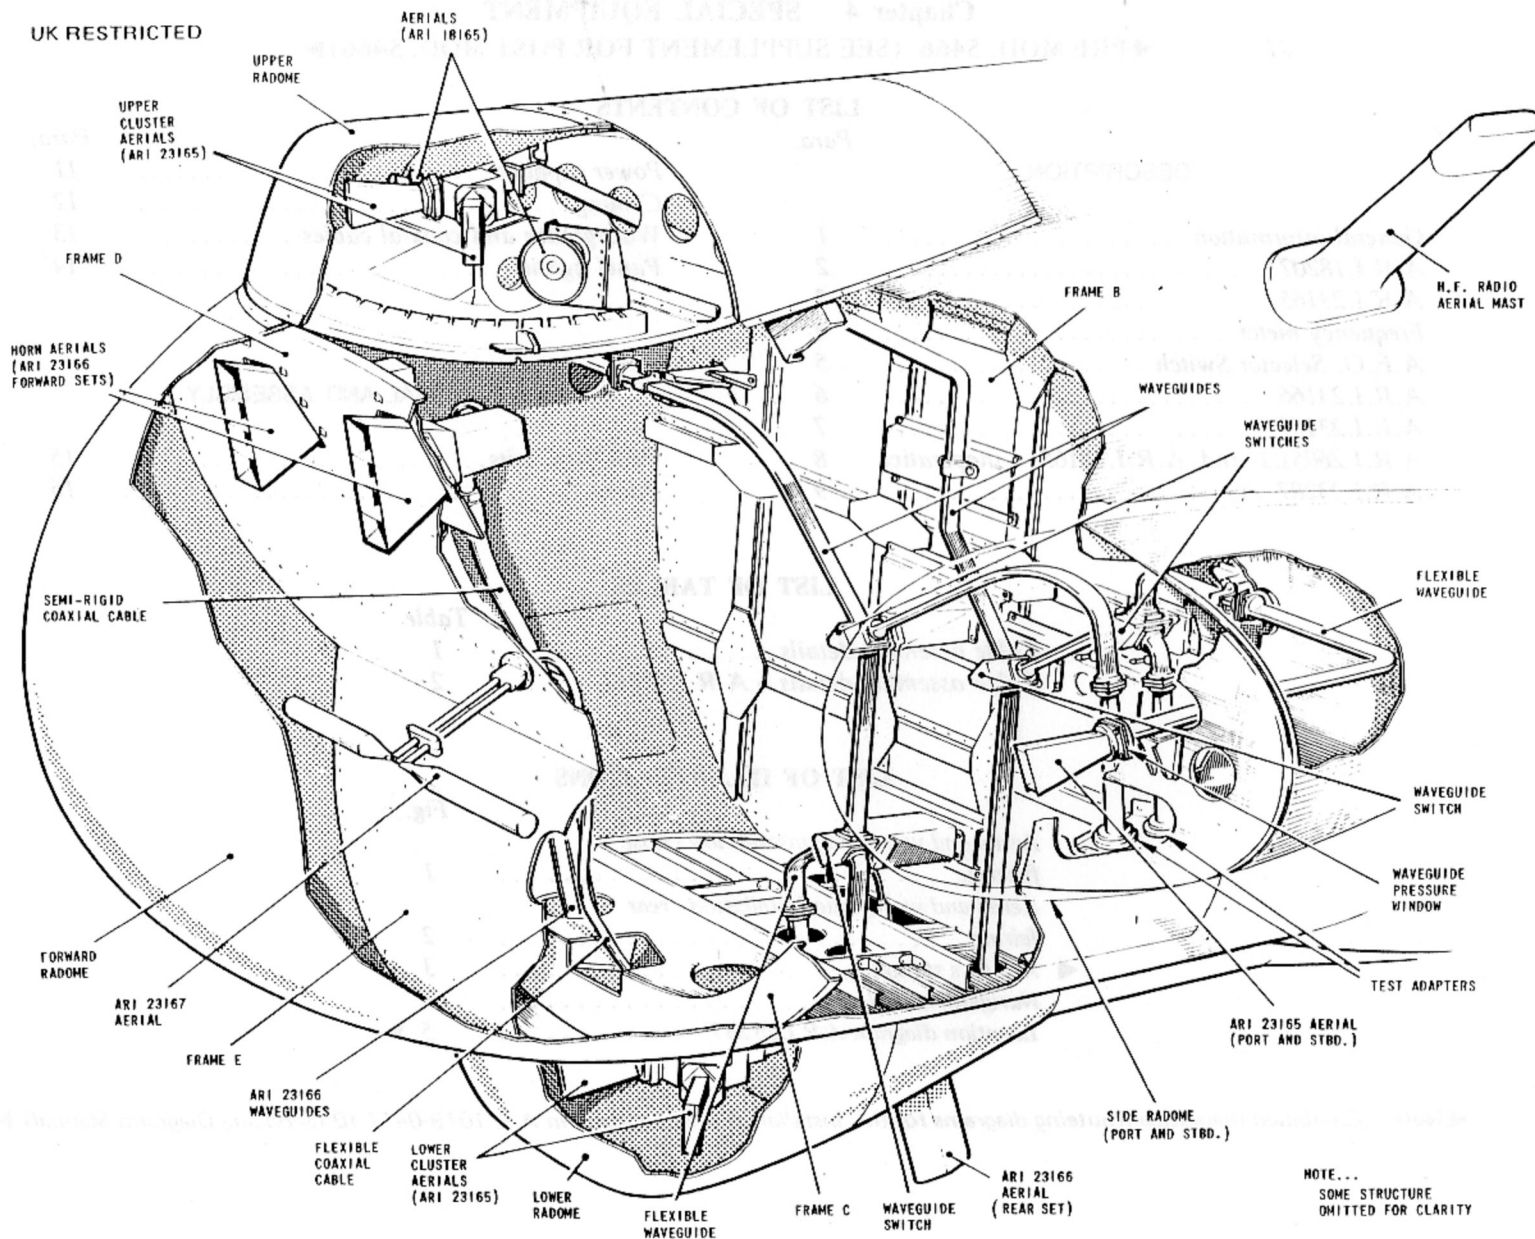
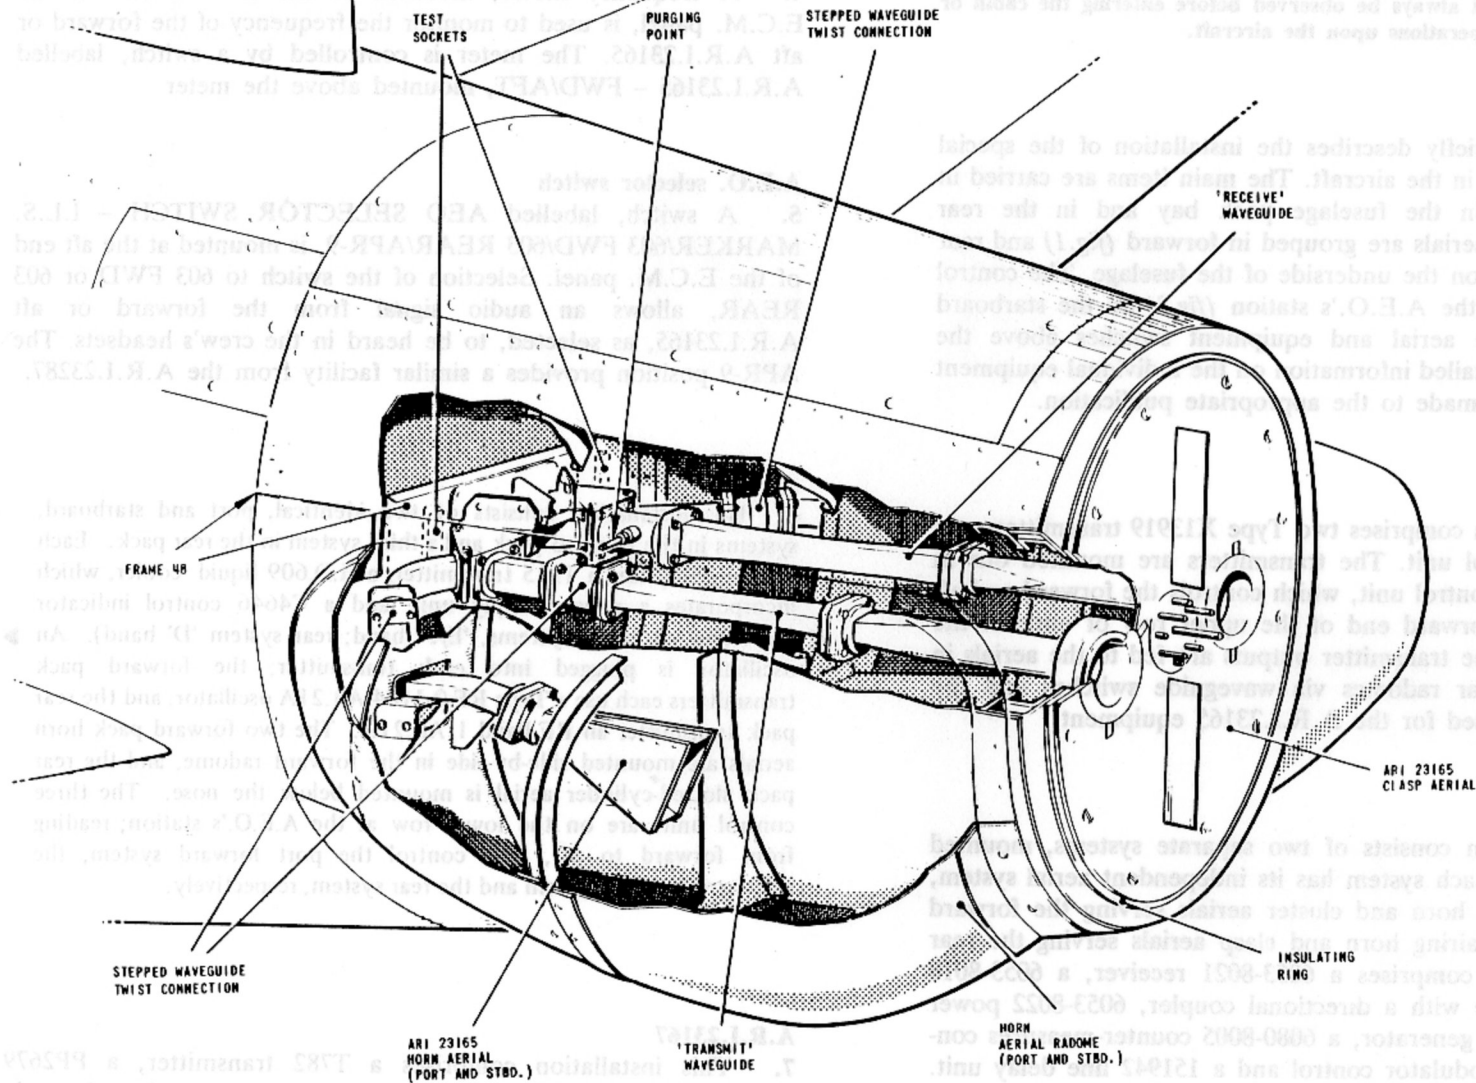

FIG. 1. AERIAL AND WAVEGUIDE INSTALLATION - NOSE FUSELAGE
FIG. 2. AERIAL AND WAVEGUIDE INSTALLATION - REAR FAIRING
1. This chapter briefly describes the installation of the special (E.C.M.) equipment in the aircraft. The main items are carried in two packs housed in the fuselage pack bay and in the rear equipment bay; the aerials are grouped in forward (*fig.1*) and rear (*fig.2*) radomes and on the underside of the fuselage. The control units are located at the A.E.O.'s station (*fig.3*) on the starboard cabin wall with the aerial and equipment switches above the control units. For detailed information on the individual equipment reference should be made to the appropriate publication.